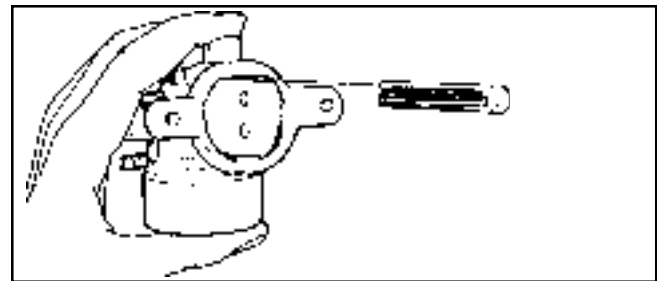

Figure 5-12. Measuring Clearance.
4. **Loosely** attach the choke plate to the choke shaft using the two screws provided in the choke repair kit. Apply Loctite® No. 609 to the threads of the choke plate retaining screws. Secure these screws **ONLY** after the choke plate is properly aligned in the choke bore. To align choke plate, insert a .010 in. shim between the top right edge of the choke plate and bore. See Figure 5-12. Then while pushing down on the top of the choke shaft, tighten screws securely.